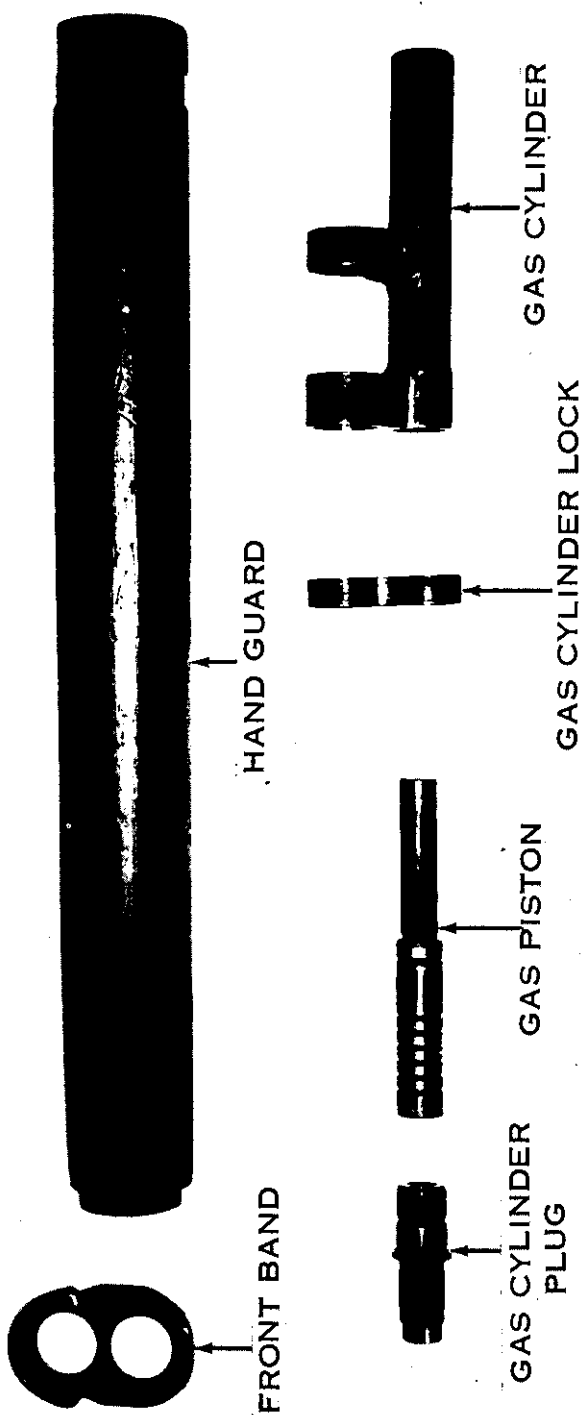

Figure 19. Parts of the gas system; handguard and front band.
b. The parts of the gas system, and the handguard and front band are shown in figure 19.